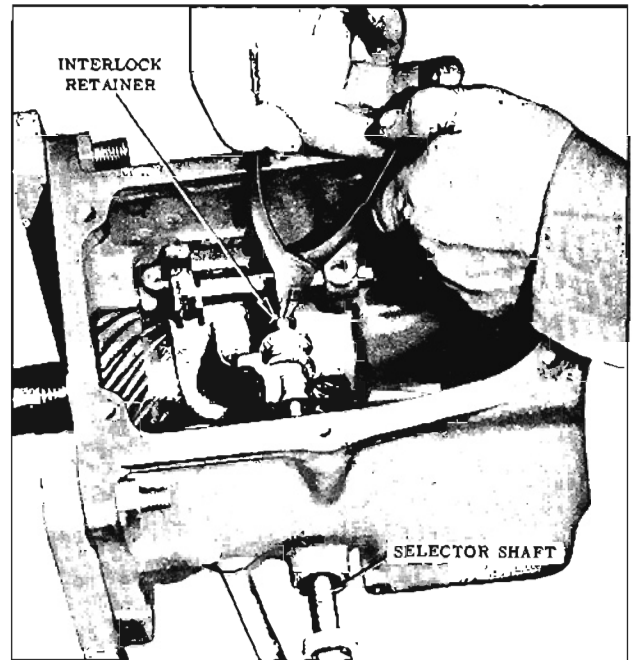

Fig. 7-14 Removing Interlock Retainer
13. Pull selector shaft away from the second and third speed shifter shaft and remove the interlock retainer. (Fig. 7-14)